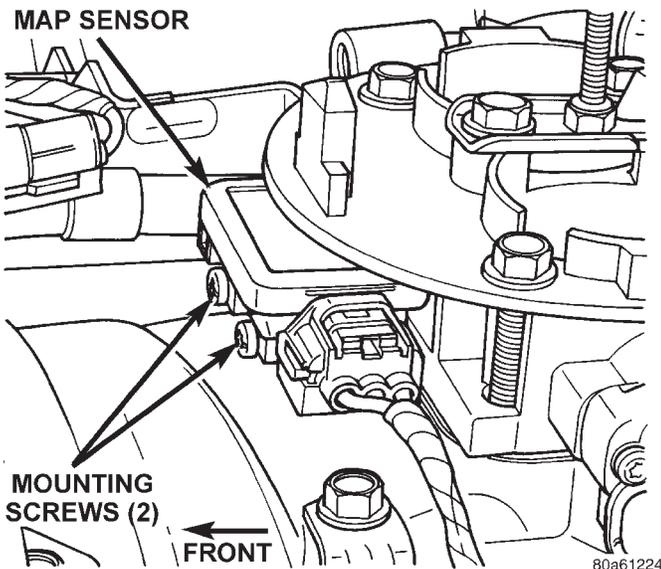
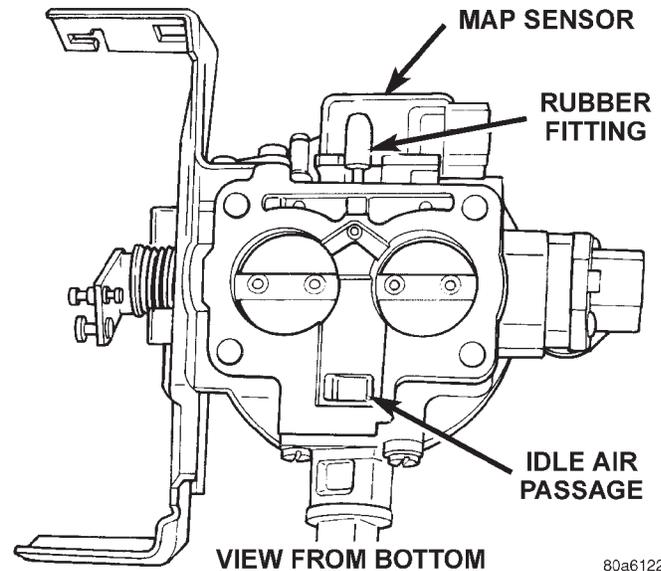

Fig. 73 MAP Sensor Mounting Screws—5.2L/5.9L Engines
Fig. 74 MAP Sensor L-Shaped Rubber Fitting—5.2L/5.9L Engines
The MAP sensor is located on the front of the throttle body (Fig. 73). An L-shaped rubber fitting is used to connect the MAP sensor to throttle body (Fig. 74).
- (1) Remove air duct at throttle body.
- (2) Disconnect electrical connector at sensor.
- (3) Remove two MAP sensor mounting bolts (screws) (Fig. 74).
(4) While removing MAP sensor, slide the vacuum rubber L-shaped fitting (Fig. 74) from the throttle body.
- (5) Remove rubber L-shaped fitting from MAP sensor.